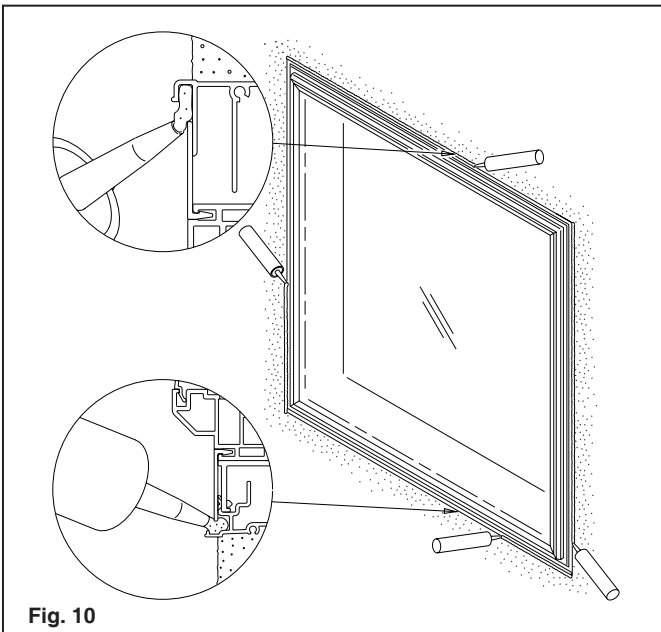

Fig. 10
B. Use a recommended sealant for the type of job and materials being used to apply a continuous bead of sealant around the outer edge of the trim you just installed. See **Fig. 10**.